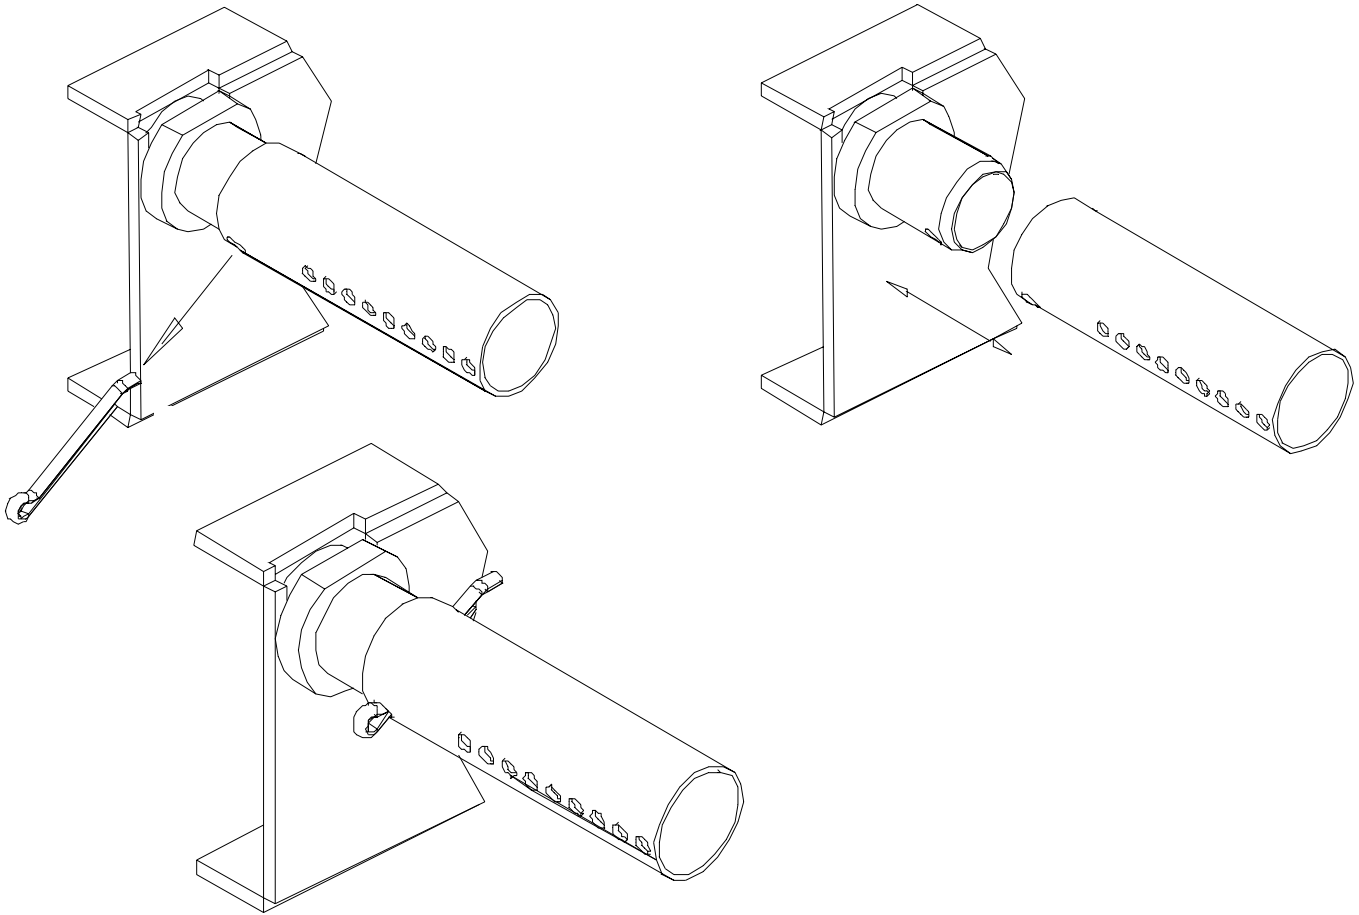

Figure 3.4 – Secondary Air Tube replacement
8. Install the middle and rear secondary air tubes ensuring air hole face forward. Install the cotter pins as in fig 3.4.
(See Figure 3.4)